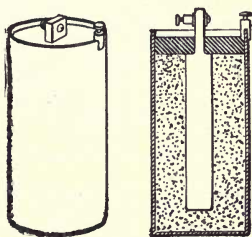

FIG. 75.—Dry Cell.
**209. Dry Cells.**—Dry cells (Fig. 75) are not actually dry. They contain the same ingredients as the Leclanché cell, but instead of containing a fluid electrolyte they have the solution absorbed in a plastic mass of manganese dioxide and plaster of Paris or other inactive substances.